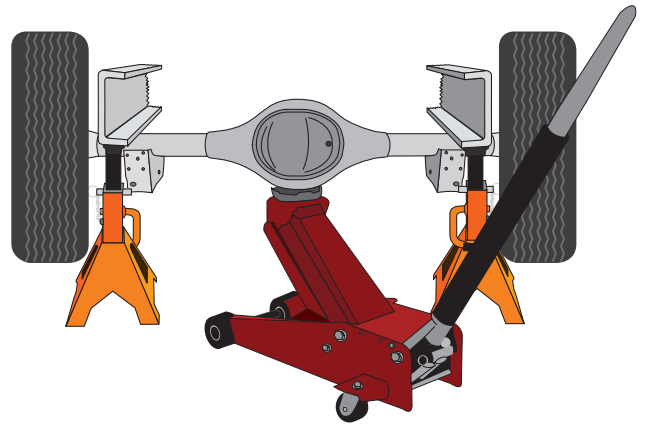

Fig. 2
1. Lift the vehicle and support the frame with safety stands. Leave enough room to drop the axle down low enough to set the air spring assemblies into position between the jounce bumper bracket and leaf spring (Fig. 2). Remove the rear wheels.